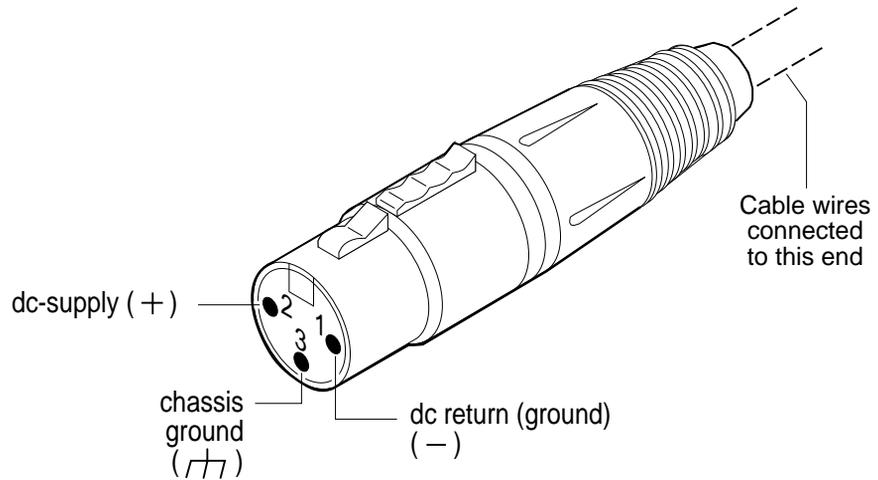

Figure 4-1E. Three-Pin XLR Plug Pinouts (Front View)
- 13 Note that you will have to assemble your own dc power cable using 18 AWG connecting wires and a three-pin HP E9640A XLR (female) connector plug, shown in Figure 4-1E.**